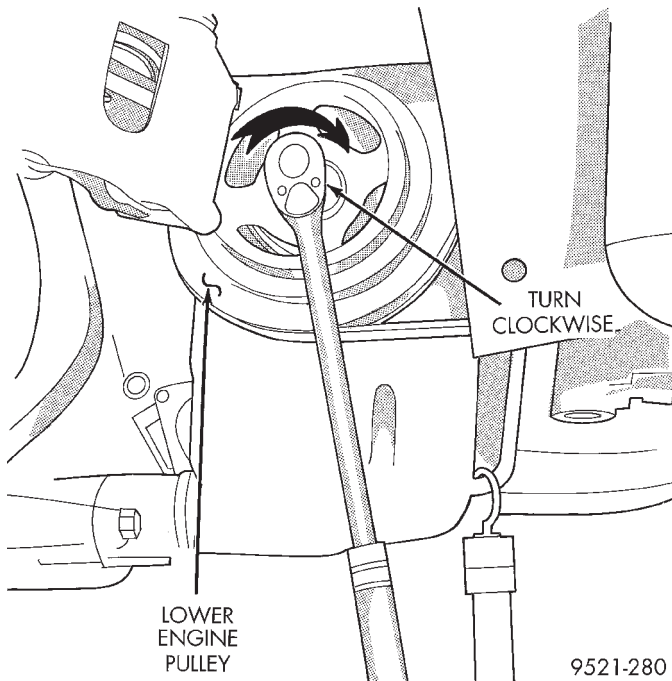
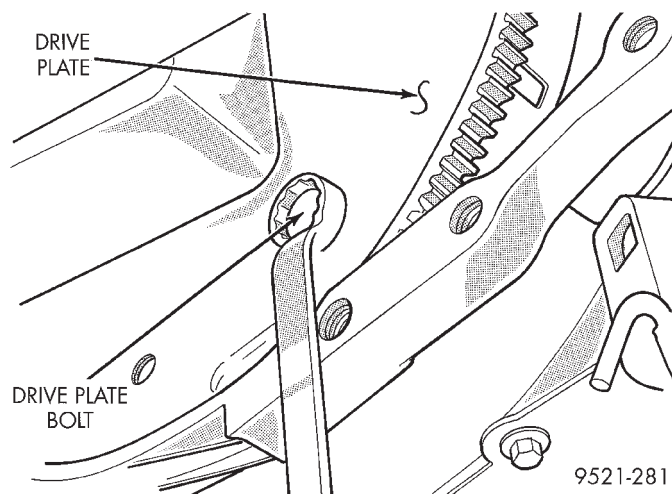
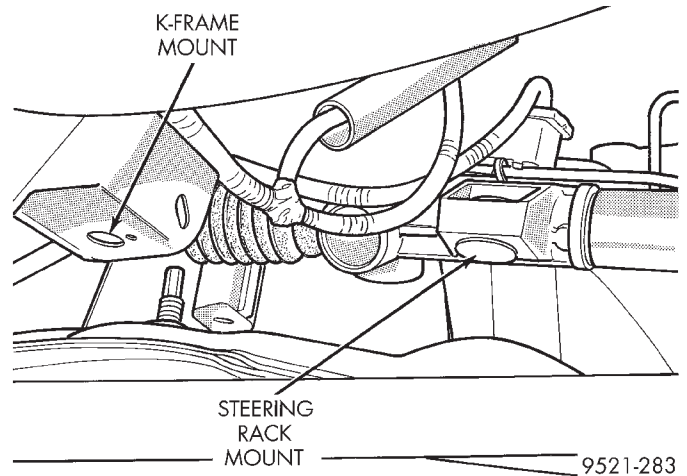

Fig. 52 Rotate Engine Clockwise
Fig. 53 Converter Bolts
Fig. 54 Steering Gear and K-frame Bolts
- (22) Remove flex plate cover.
- (23) Rotate engine clockwise to line up converter bolts (Fig. 52). Remove converter bolts (Fig. 53). Mark converter for reassembly ease .
- (24) Remove crank position sensor (if equipped).
- (25) Remove transaxle wiring.
- (26) Loosen right side steering gear bolts. Loosen right side K-frame bolts.
- (27) Remove left side steering gear bolts. Remove left side K-frame bolts (Fig. 54).